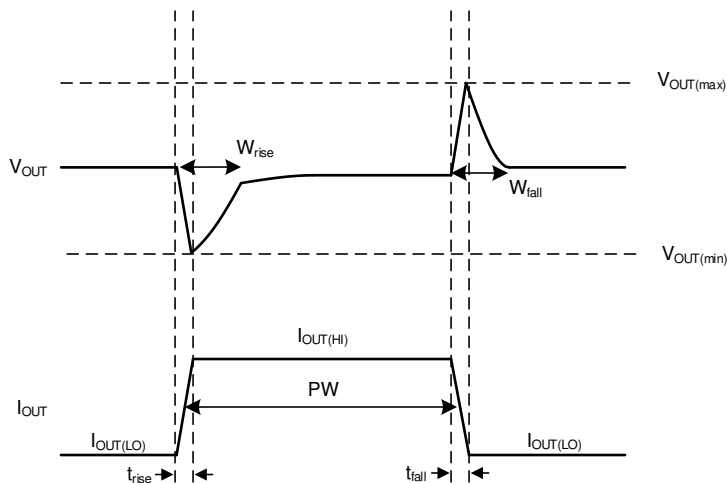

Figure 9-10. Simplified Load Transient Waveform
The transient response peaks ($V_{OUT(max)}$ and $V_{OUT(min)}$) are improved by using more output capacitance; however, doing so slows down the recovery time (W_{rise} and W_{fall}). Figure 9-10 shows these parameters during a load transient, with a given pulse duration (PW) and current levels ($I_{OUT(LO)}$ and $I_{OUT(HI)}$).